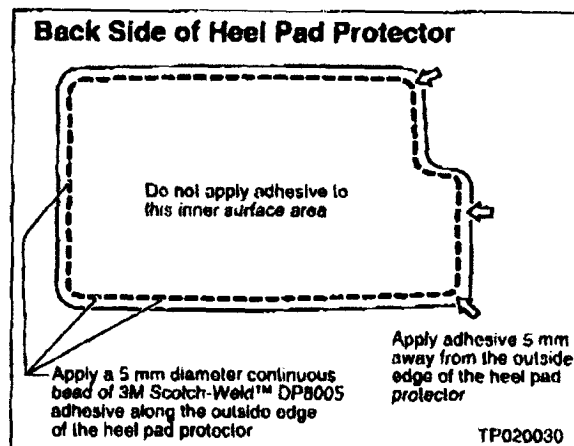

Figure 3
5. Apply a 5 mm diameter continuous bead of 3M Scotch-Weld™ DP8005 Adhesive along the outside edges of the Heel Pad Protector (see Figure 3)